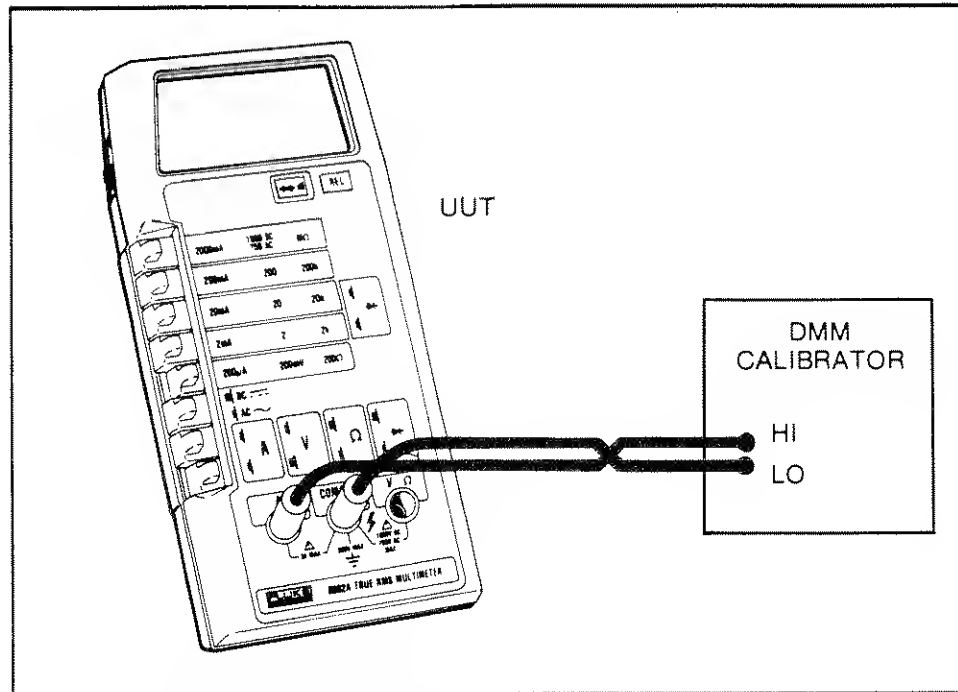

Figure 4-5. Equipment Connection for Current Test
1. Connect the UUT and the DMM Calibrator as shown in Figure 4-5.